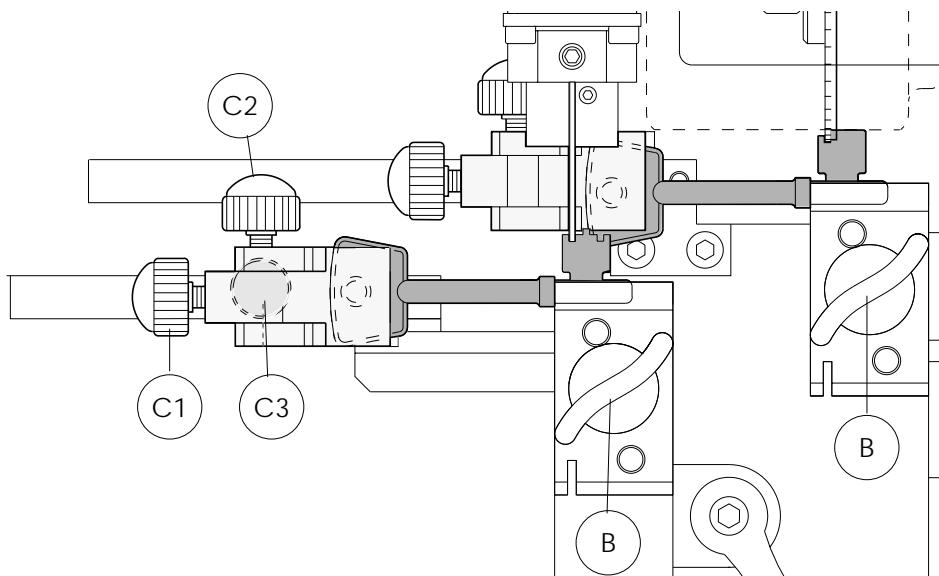

Fig. 16
- 1) loosen the thumbscrew (B) to open the jaw.
- 2) insert the original key in the left hand jaw aligning the shoulder with the side of the jaw (fig. 16) tightening the thumbscrew (B) slightly.